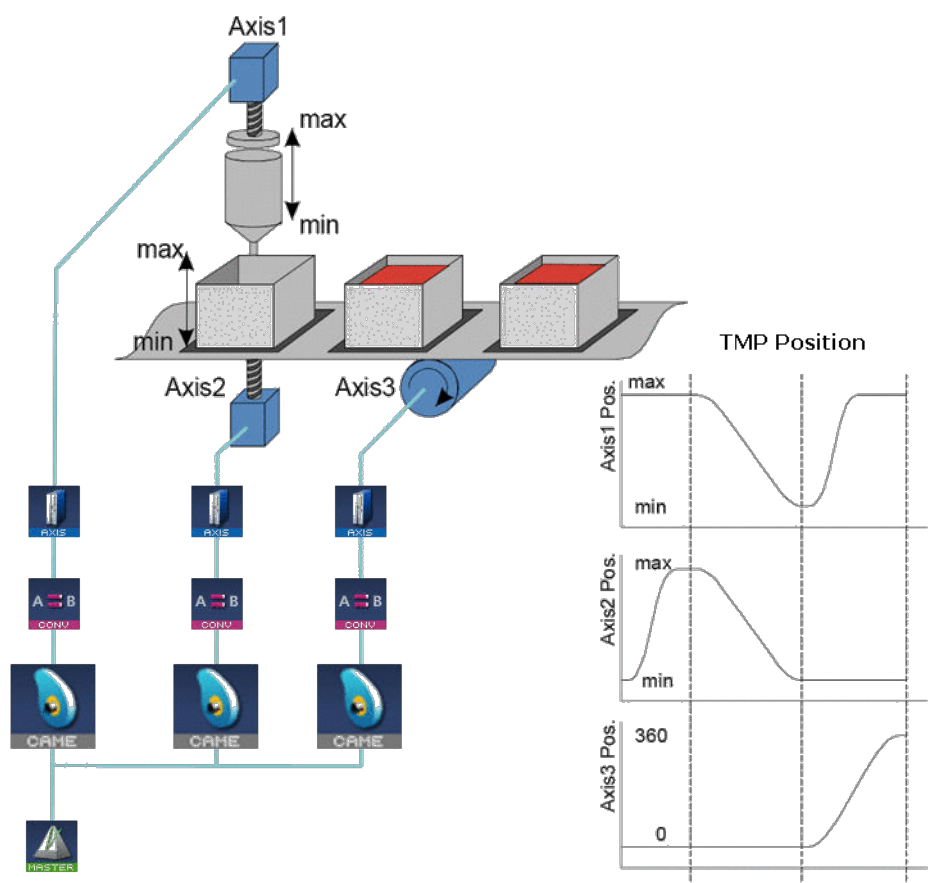

Figure 4-33: Example: Cam Blocks Control Operation of a Three Axis Filling Mechanism
- All three axes track the main machine motion profile produced by a TMP Generator. (Figure 4-33)